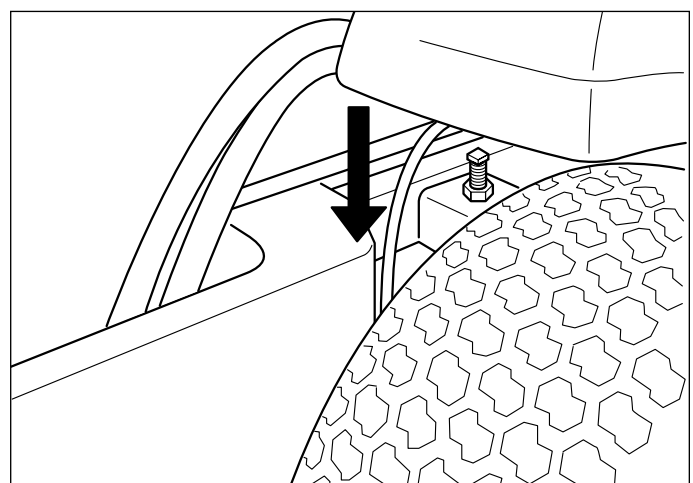

Figure 42. Rear Suspension Adjustment
1. The measurement to the top of the rear frame rails, at the widest point on the frame behind the drive tires should be 22-3/8" (56,8cm) for each side (see arrow in Figure 42).